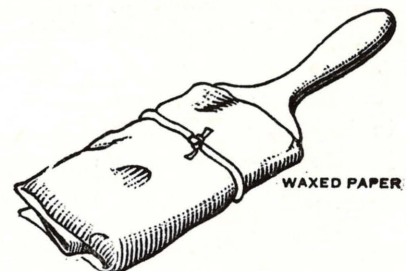

Fig. 159—A paint brush wrapped for storing
- (d) Wrap in waxed paper, and lay away in a dry place. (See Fig. 159.)